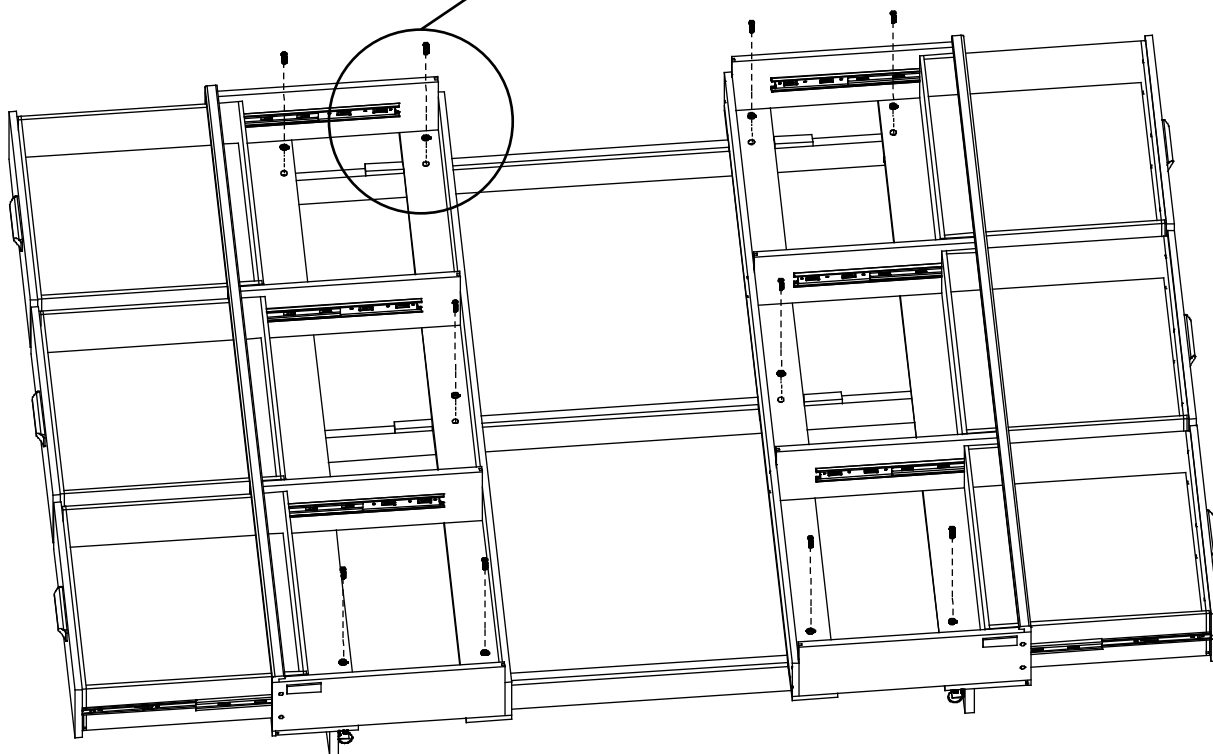

Fig. 4
4. Open the drawers and attach the pedestal to the base using Hex Bolts (ZH) and Washers (ZF) only finger tight. See Figures 4 and 4a.